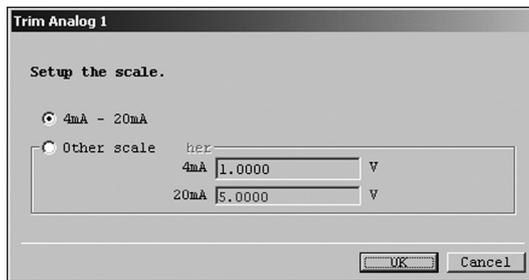

Fig.136
- ③ The following window will be displayed after the "OK" button is clicked (Fig. 136). Select the scale from 4 to 20mA for adjusting analog 1, or select another scale (Other scale), then click the "OK" button.
- ⑦ Click the "Cancel" button to halt adjustment in progress, and follow the instructions that appear.
- ⑧ When "Other scale" is selected in the window shown in Fig. 136, another scale can be inputted as shown in Fig. 139. When an analog value equivalent to 4mA output is inputted into the first field (the 4mA side), then a corresponding value is automatically inputted into the second field (the 20mA side).